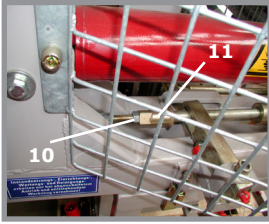

Fig. 8
Release the locknut (10) of the adjustment rod and optimize the position of the stop bushing (11) by turning the threaded portion (see figure 8).